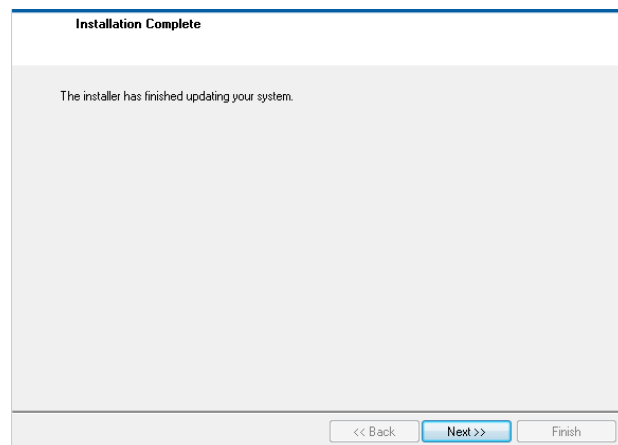

Figure 9. Indicating When the Installation is Complete
8. A dialog box indicates when the installation is complete (see Figure 9). Click **Next**.